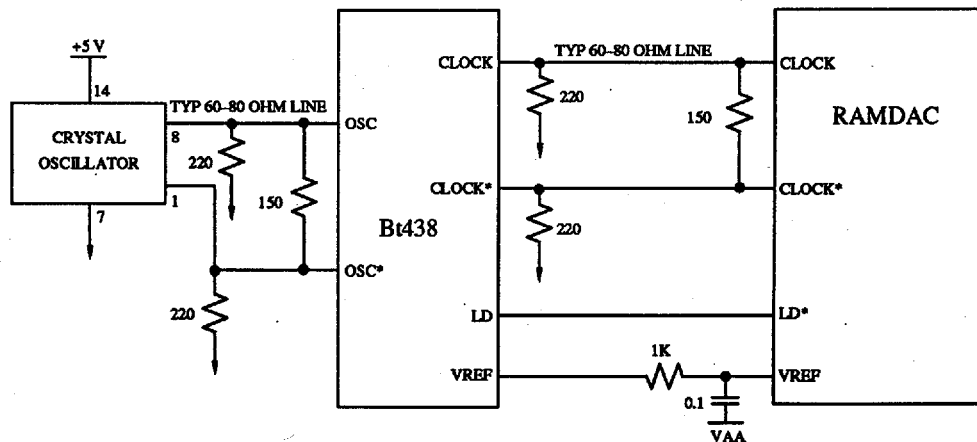

Figure 4. Interfacing to a Differential Crystal Oscillator.
Figure 4 illustrates interfacing the Bt438 to a RAMDAC when using a differential ECL oscillator. The Bt438 should be located as close as possible to the RAMDAC. The 220 Ω resistors at the oscillator should be located as close as possible to the OSC and OSC* outputs. The 150 Ω resistor at the Bt438 should be located as close as possible to the Bt438 OSC and OSC* inputs.
- M Revised Figure 2. Revised the RAMDAC interface in the Application Information section and Figures 4, 5, and 6.